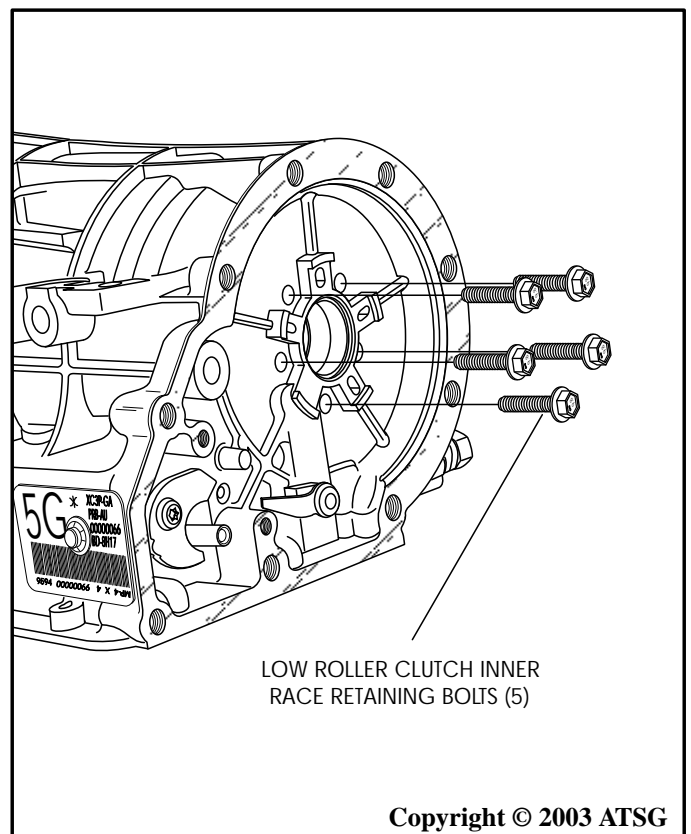

Figure 79
39. Rotate the transmission in fixture so the pan rail surface is facing down (See Figure 79).
40. Remove the 5 low roller clutch inner race bolts, as shown in Figure 79.